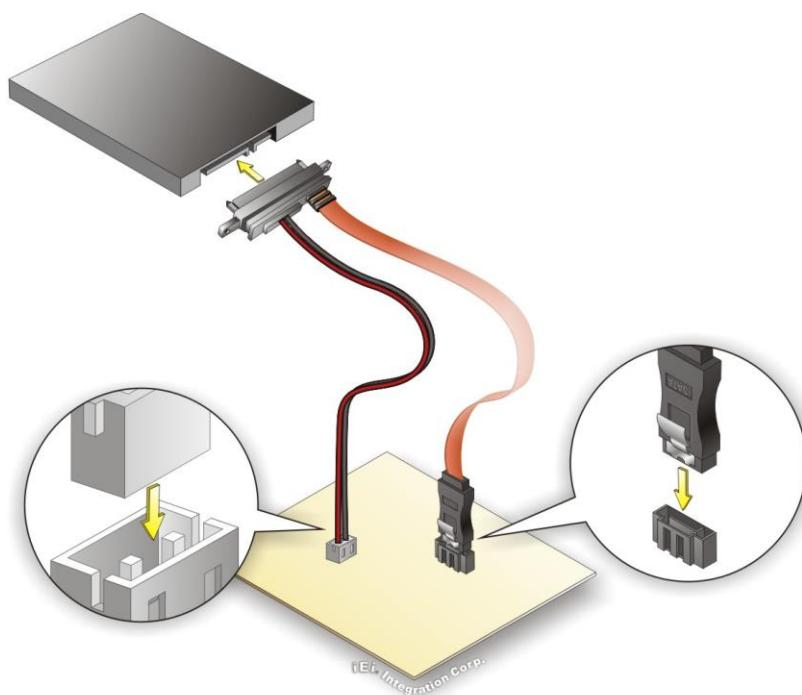

Figure 3-10: SATA Drive Cable Connection
Step 2: Insert the cable connector. Insert the cable connector into the on-board SATA drive connector and the SATA power connector. See **Figure 3-10**.
- Step 3:** Connect the cable to the SATA disk. Connect the connector on the other end of the cable to the connector at the back of the SATA drive. See **Figure 3-10**.